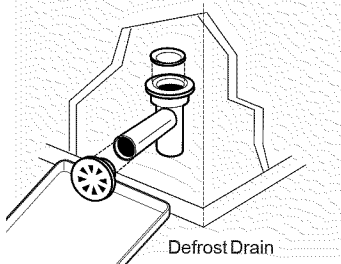
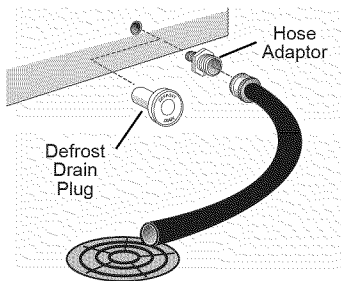
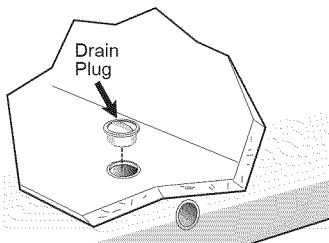

Figure 2
Figure 3
Figure 4
- **On chest models with a defrost drain,** place a shallow pan beneath the drain outlet (Figure 2). A 1/2" garden hose adaptor can be used to drain the freezer directly into a floor drain (Figure 3). If your model is not equipped with an adaptor, one can be purchased at most hardware stores. Pull out the drain plug inside the freezer, and pull off the outside defrost drain plug (Figure 4). Defrost water will drain out. Check pan occasionally so water does not overflow.